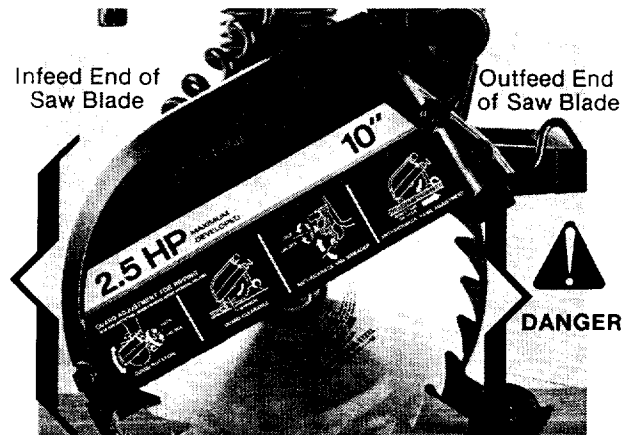

Fig. 110 Infeed and Outfeed Ends of Saw Blade
**Wrong way feed is feeding the workpiece into the end of the blade with pawls, the outfeed end. (Fig. 110) There are two things that can happen if you feed the workpiece into the outfeed end of the saw blade:**
4. Go to the in-feed end of the saw blade. Fig. 110.